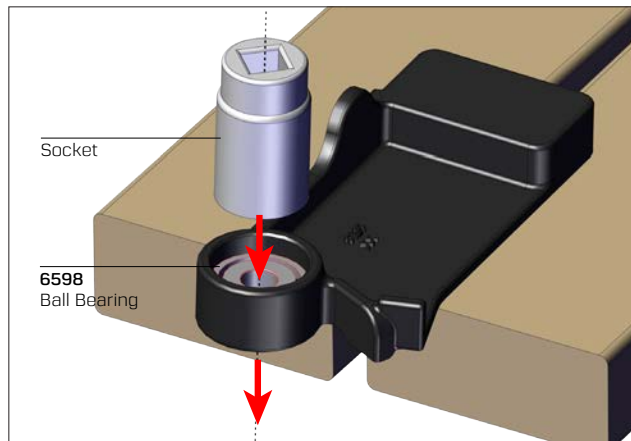

Fig. 6.
- Support counterweight as shown in Fig. 6. Use a socket (7/8") or similar tool with an outside diameter slightly less than 1.25" (30 mm) and remove **#6598** ball bearing by tapping on socket with ball-peen hammer.